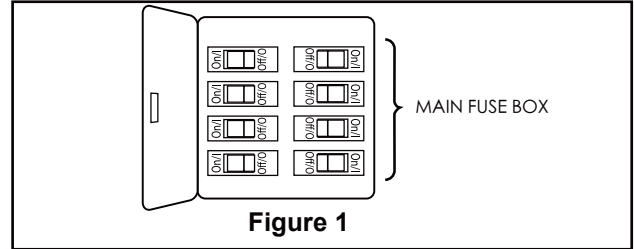
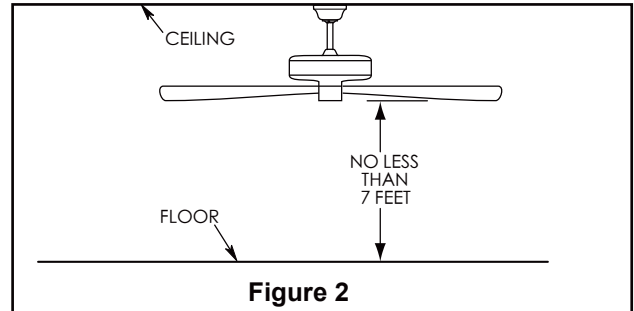
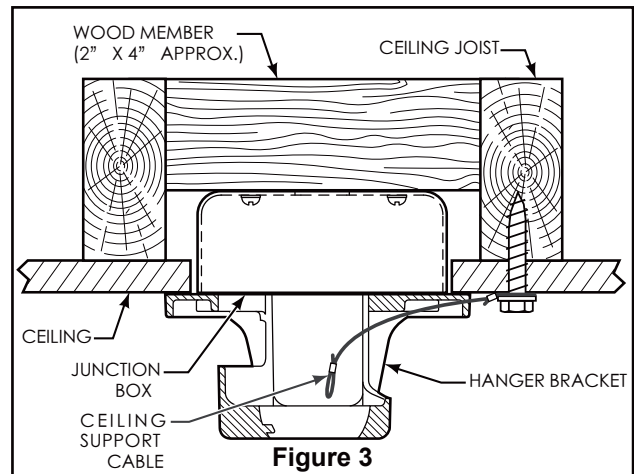

Figure 1
Figure 2
Figure 3
Your new ceiling fan will require a grounded electrical supply line of 120 volts AC, 60 HZ, 15 Amp Circuit. Electrical code requires use of a fan-rated outlet box to support the extra weight and motion associated with a ceiling fan. A fan-rated box will be labeled as such and typically supports up to a 70lb ceiling fan. Fan-Rated Outlet Boxes vary in ratings and design. Ensure the ratings of your ceiling fan outlet box meet the requirements for the ceiling fan being installed. Figure 1, Figure 2 and Figure 3 depicts different structural configurations that may be used for mounting the outlet box.
Low profile box (Figure 1)
Deep box (Figure 2)
Deep box with brace (Figure 3)
1. Cut off excess lead wire approximately 6 to 9 inches above top of the downrod. Strip insulation 1/2 inch from the end of each lead off wire. (Figure 1)
To avoid possible electrical shock, be sure electricity is turned off at the main fuse box before hanging. (Figure 1)
The fan must be hung with at least 7' of clearance from floor to blades. (Figure 2)
1. Using the $\frac{3}{8}$ " x 2" lag bolt and flat washer, attach safety cable to ceiling joist or wood structural member. The lag bolt will pass through the flat washer, safety cable loop, and into the building structure (Figure 3). You will first drill a $\frac{1}{4}$ " pilot hole into the building structure to prevent splitting or cracking.
NOTE: Ceiling support cable cannot be secured to junction box only, it must be directly secured to ceiling joist or structural member using the $\frac{3}{8}$ " x 2" lag bolt and flat washer. (Figure 3)
1. To set the code on receiver unit, slide dip switches to the same positions as set on the remote. (Figure 1)
To avoid possible electrical shock, be sure electricity is turned off at the main fuse box before wiring (Figure 2).
2. Connect green wires from hanger bracket and downrod to bare (ground) wire using wire connector. Connect black wire from receiver unit marked "AC IN L" to black supply wire using wire connector. Connect white wire from receiver unit marked "AC IN N" to white supply wire using wire connector. Connect white wire from receiver unit marked "TO MOTOR N" to white wire from fan using wire connector supplied with receiver unit. Connect black wire from receiver unit marked "TO MOTOR L" to black wire from fan using wire connector supplied with receiver unit. Lastly, connect blue wire from receiver unit to the blue fan light wire using wire connector supplied with receiver unit. (Figure 3)
1. Remove one of the two shoulder screws in the hanger bracket. Loosen the second shoulder screw without fully removing it. Assemble canopy by rotating key slot in canopy over shoulder screw in hanger bracket. Tighten shoulder screw. Fully assemble and tighten second shoulder screw that was previously removed. (Figure 1)
2. Securely attach and tighten the canopy screw cover over the shoulder screws in the hanger bracket utilizing the keyslot twist-lock feature. (Figure 2)
1. Secure the three blades using the 1/4"-20 screws with flat washers and blade plate assembly through the holes located on the bottom of the motor assembly. (Figure 1)
2. Position the trim cover onto the blade plate assembly bottom. (Figure 2)
1. **IMPORTANT:** Using a full range dimmer switch (not included) to control fan speed will damage the fan. To reduce the risk of fire or electrical shock, do not use a full range dimmer switch to control the fan speed. (Figure 1)
2. Restore electrical power to the outlet box by turning the electricity on at the main fuse box. (Figure 2)
3. To make fan operational, install 23A/12V battery (included) in hand-held remote transmitter, with fan power off. Then follow the remote code setting process. (If not used for long periods of time, remove battery to prevent damage to transmitter). Store the remote away from excessive heat or humidity. (Figure 3)
1. **Installing Wall Holder:** (Figure 1)